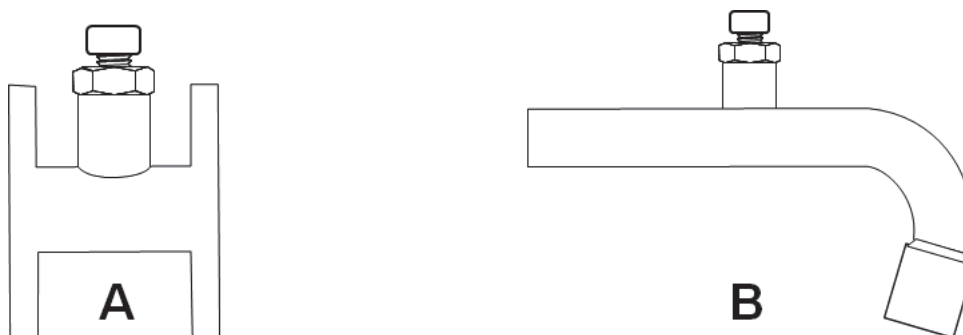

Figure 6-55. Fixed Wastegate (TSIO-520-T) (Typical)
2. If the installed exhaust system bypass resembles Figure 6-55, A:
3. If the installed exhaust system bypass resembles Figure 6-55, B: